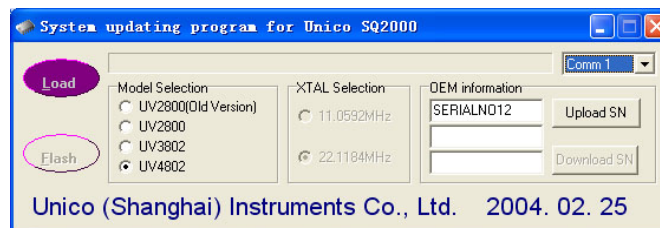

Figure 7.13 Upgrade Form
5. The “System updating program for UNICO” screen will appear. Shown in Figure 7.13.